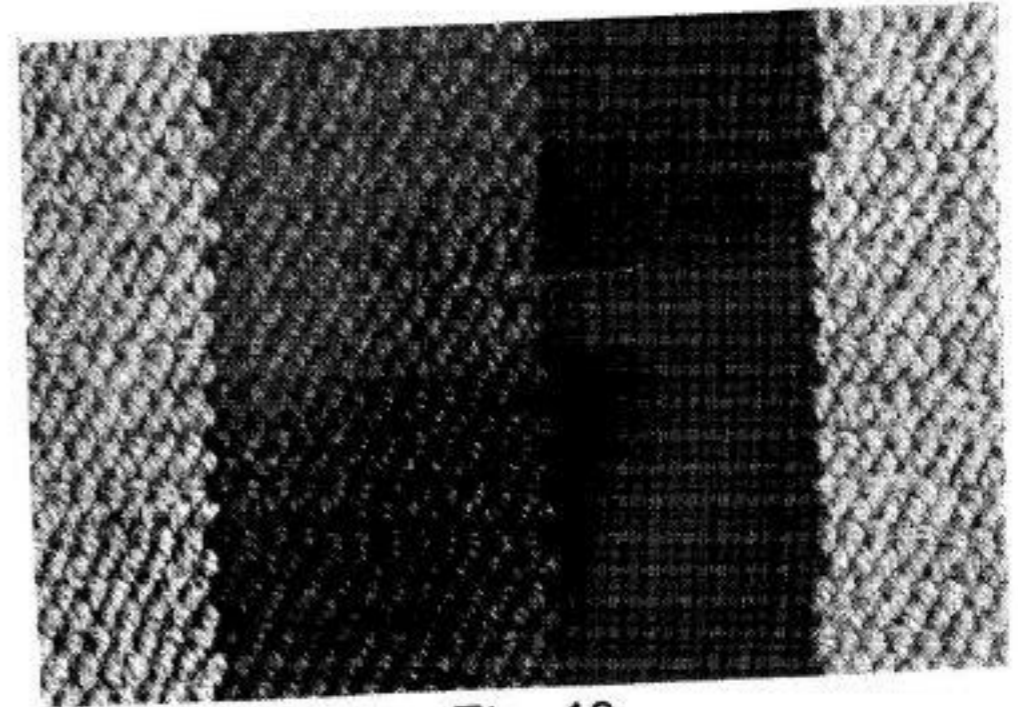

Fig. 19
- (8) Knit 1 row. Repeat from (5) above until six rows have been knitted. (Pitch Dial will now read "6".)
- (9) 7th. row. Before knitting this row, raise the Attachment and turn the Pitch Handle anti-clockwise (to the left) until it clicks once. The contrasting colour yarn will now be in the hooks of the adjacent needles to the left.
- (10) Knit the 7th. row. Repeat from (9) above, turning the Pitch Handle anti-clockwise each row until the 12th. row has been knitted. (Pitch Dial will now read '●') Repeat from (5) above.
(IV) CARPET EFFECT WEAVING. (See Fig.19)
- (1) Set up as given in Section (II). Push back into position "B" every alternate needle but arranging the needles so that at least 2 adjacent needles at each end are in position "B".